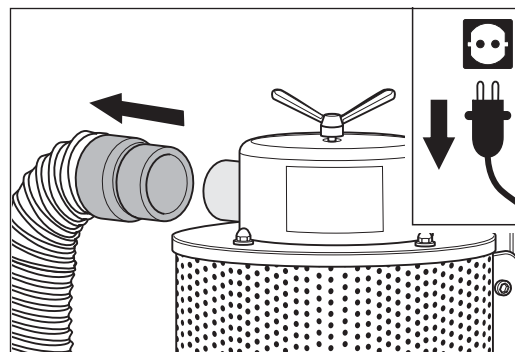

Fig. 89 Pull the suction hose from the neck of the upper part of the separator.
- 6 Pull the suction hose from the neck of the upper part of the separator (fig. 89).